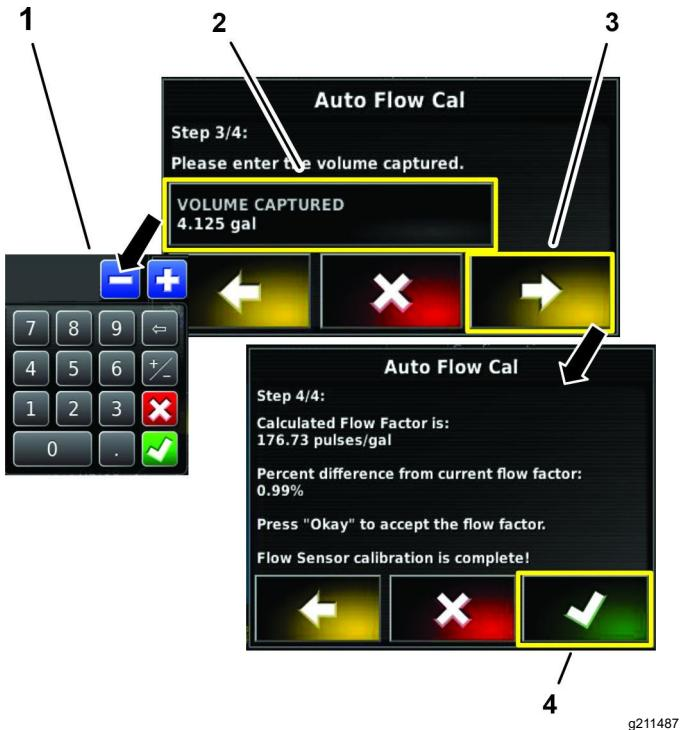

Figure 173
1. In step 3 of 4 in the auto flow calibration wizard, press the VOLUME CAPTURED icon, enter the fluid volume that you converted in step 4 of Calculating the 60-Second Sprayer Volume \(page 67\) with the on-screen keypad, and press the confirm icon (Figure 173).
2. Press the next icon (Figure 173).
3. In step 4 of 4 in the auto flow calibration wizard, press the confirm icon (Figure 173).